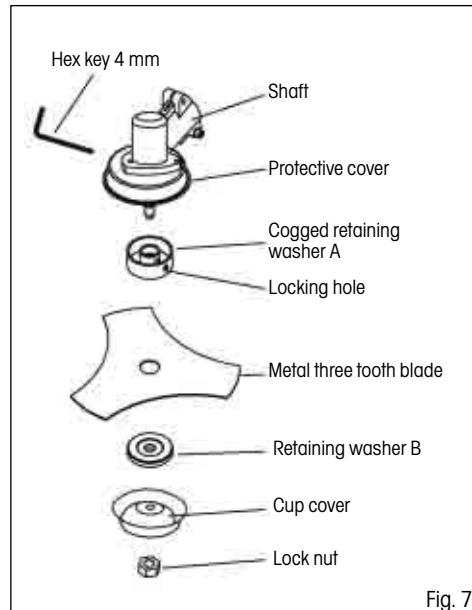

Fig. 7
- Lock the shaft in place by inserting the included 4mm hex key (see Fig. 7). To achieve this, it is necessary to align the hole in the protective guard with the hole in the shaft and insert the hex key. Align the holes by turning the protective guard.